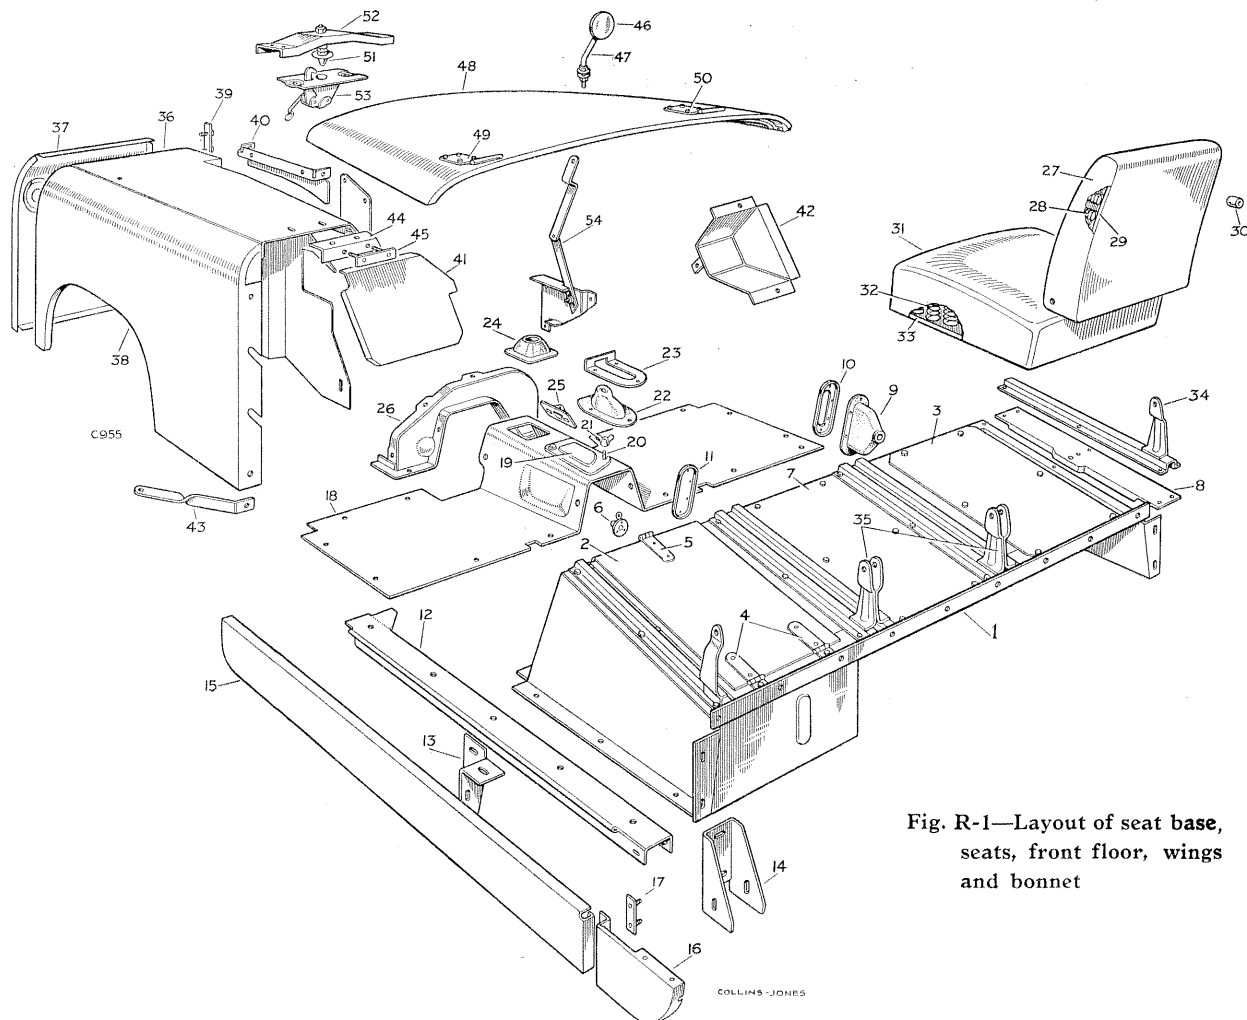

Fig. R-1—Layout of seat base, seats, front floor, wings and bonnet
3. Remove the securing bolts and lift the mudshield (see Fig. R-1) out from under the wing. Driver's side: remove the steering box mudshield.